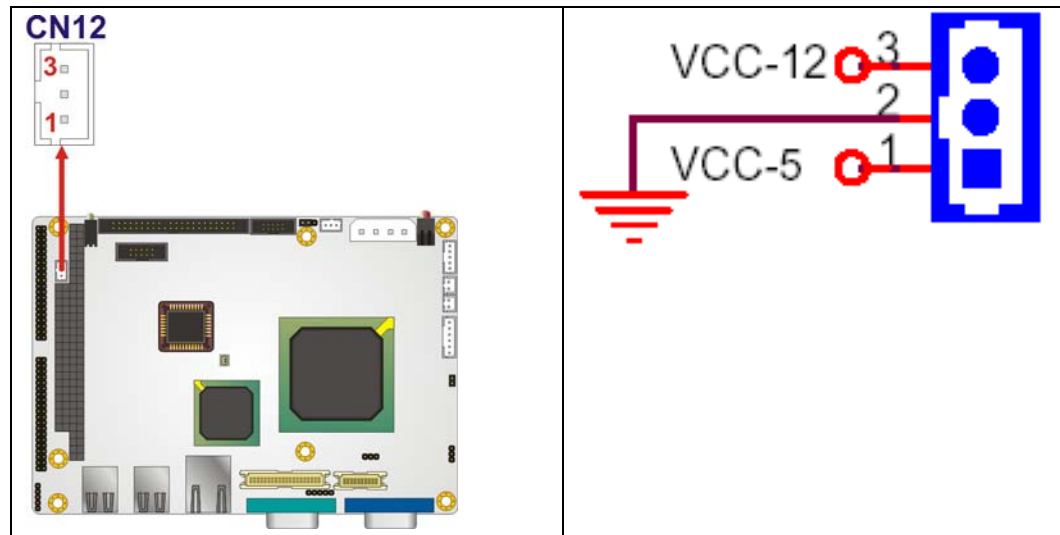

Figure 4-13: PC/104 Power Input Connector Pinouts
- CN Location:** See **Figure 4-13**